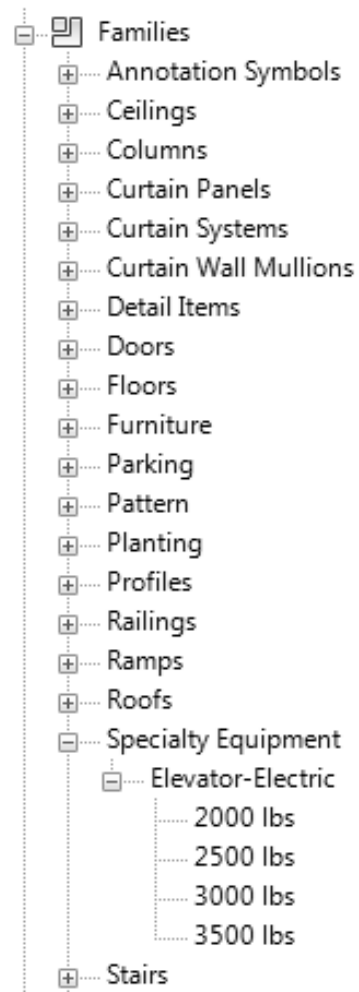

FIGURE 3-4.6 Elevator family: Project Browser
12. In the *Project Browser*, click the plus next to **Families** to expand the list (Figure 3-4.6).